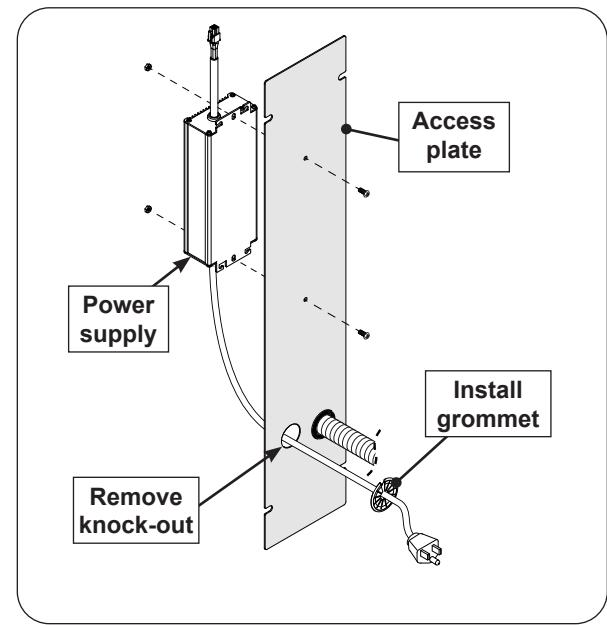

Fig. 21-1 Mount power supply to access plate
- Orient the power supply (previously removed from grill) to the access plate as shown in Fig. 21-1 and secure it to the access plate with the provided hardware.